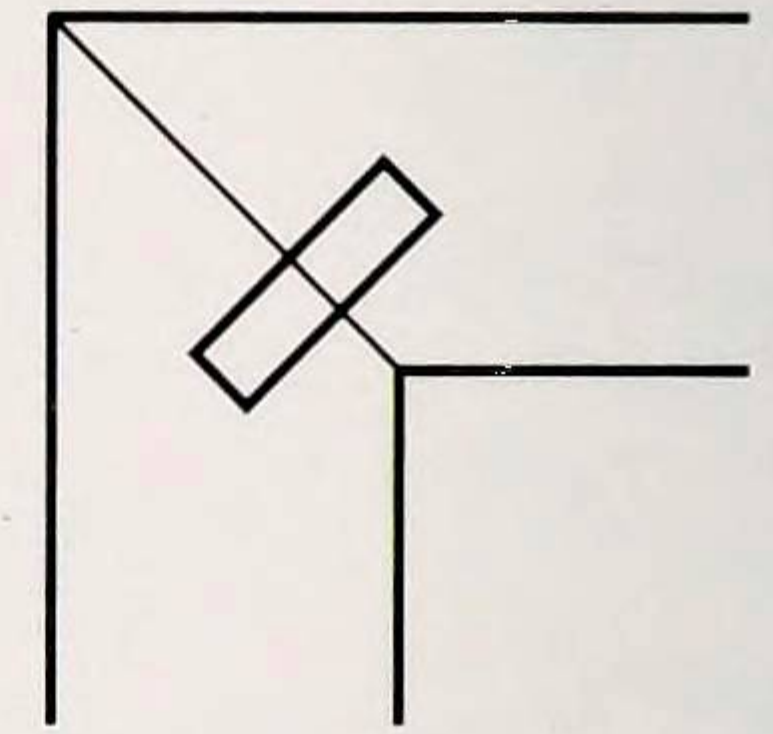

Fig. 2 The groove is cut near the inside corner
3. If the jointing system has tongue and groove, the router is the ideal tool. Ensure the grooves are placed near the inside corner so that there is no danger of the tongues (or, if using a jointer, the biscuits) weakening the wood (Fig. 2).